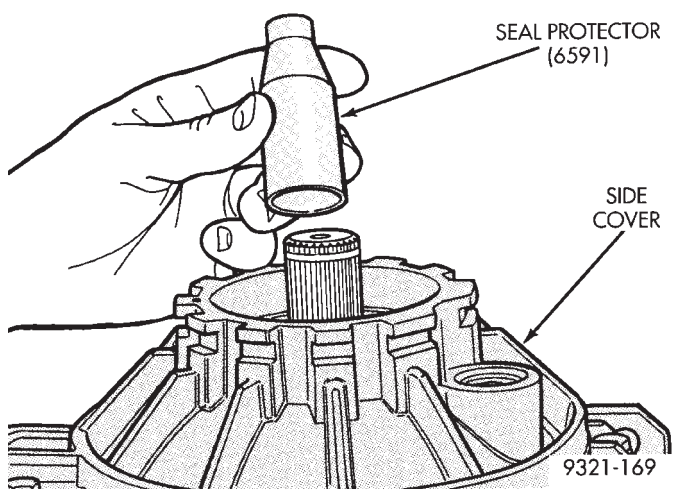

Fig. 290 Seal Protector
(54) Install seal protector (special tool 6591) on shaft (Fig. 290).